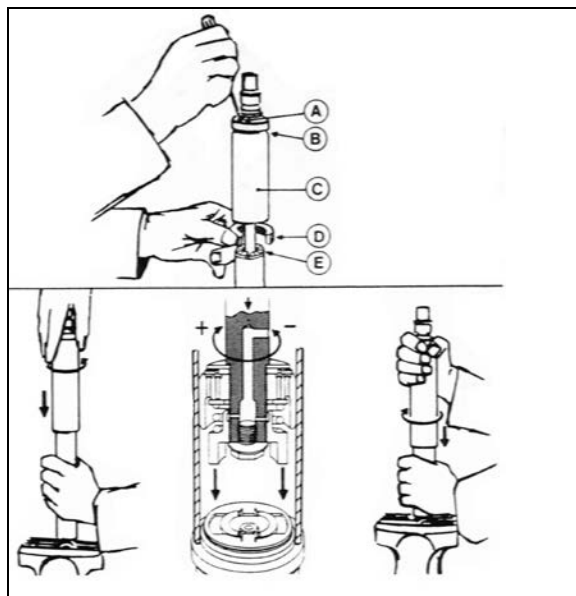

FIGURE 36: DAMPER
To adjust opening and closing cycle speed on damper (Figure 36):
8. Fully close the damper while turning the dust cap or piston rod slowly CCW until it is felt that the cams of the adjusting nut engage in the recesses of the foot valve assembly (Figure 36).
Where a bump rubber was installed, refit same inside the dust cap and by fully closing the damper, the rubber will seat again at top of the dust cap. Refit the split plastic collar E (Figure 36).